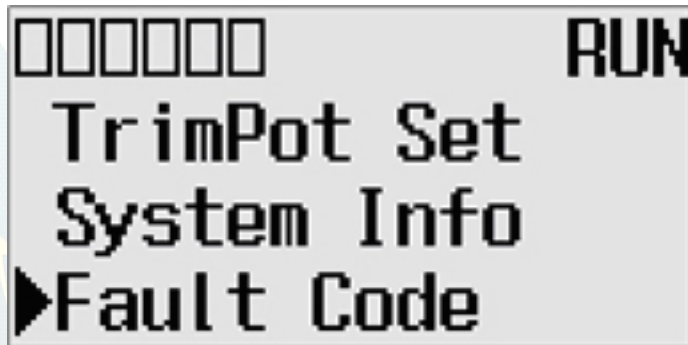

Figure 5 Advanced Settings Menu, Page 2
4. Use the Down key to get to Page 2 of the Advanced Settings Menu (refer to Figure 5 Advanced Settings Menu, Page 2).